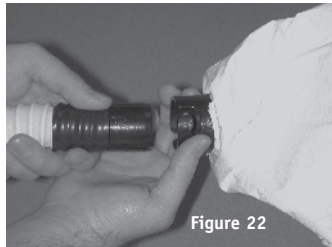

Figure 22
2. Insert the bayonet connector of the PA20LFBT breathing tube in the hood connector and turn clockwise until it locks in place (see Figure 22).